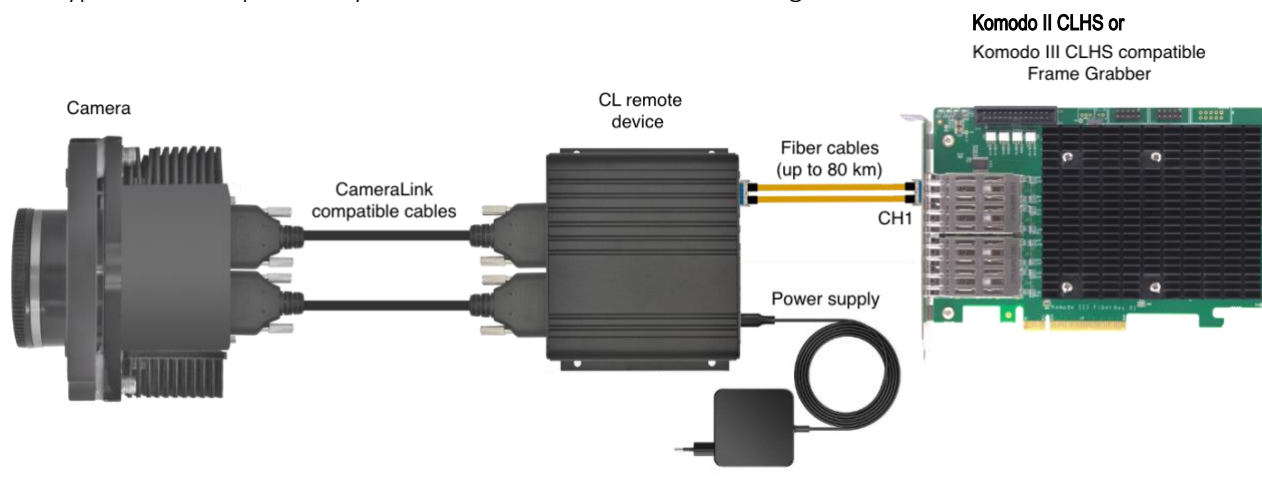

Figure 4 – KY-EXT-CL connection diagram
The typical FXCL Acquisition system is connected as described in Figure 4:
3. The power supply connector of the KY-CL2F-D unit shown in Figure 4.